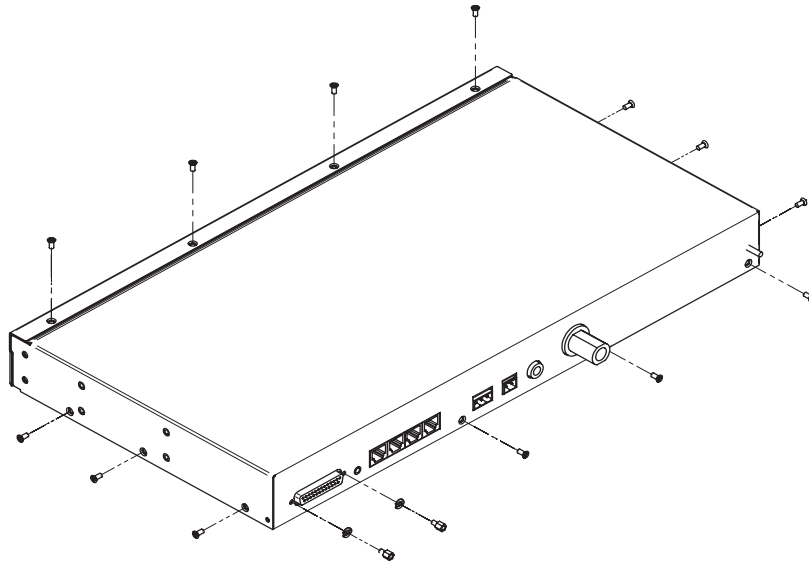

Figure 1. Removing the Cover Screws (TRACER 4x06)
1. Remove the screws from the chassis cover using a Phillips-head screwdriver (see Figure 1).